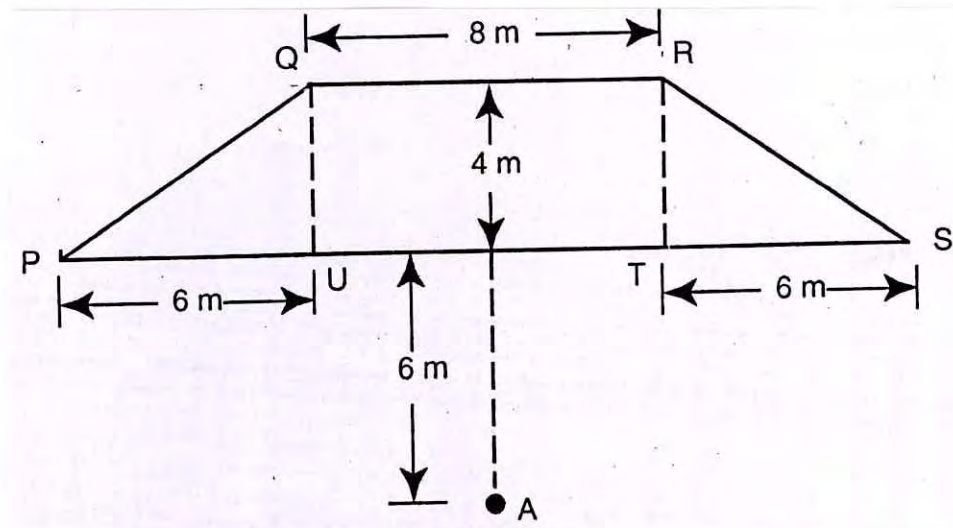

Fig. 4 (for Q. no. 12(a))
12. (a) An embankment is to be constructed with following dimensions (Fig. 4):